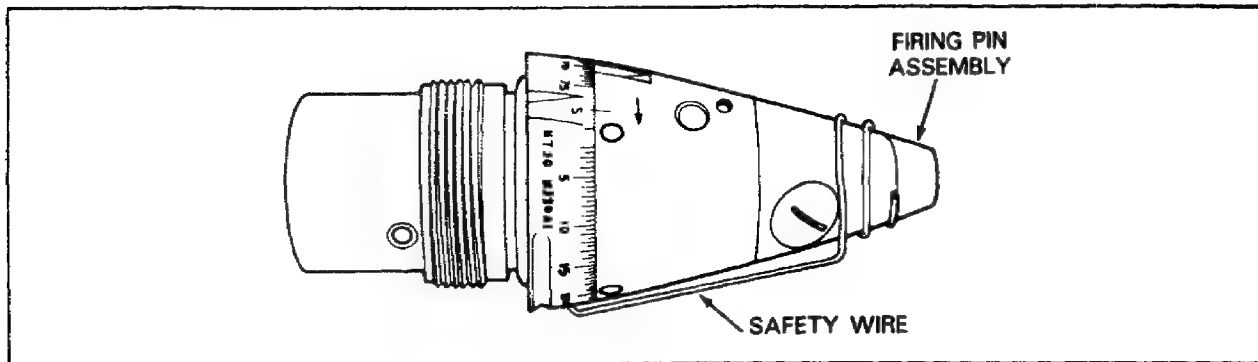
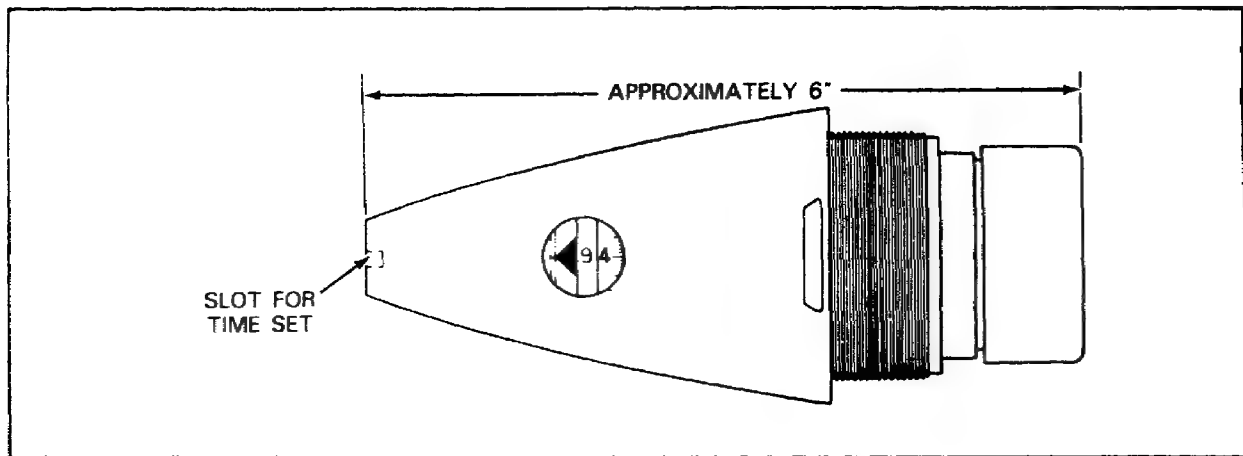

Figure 68. Typical MTSQ Fuze (Older Model).
Figure 69. Typical MTSQ Fuze (Newer Model).
**Mechanical Time, Superquick Fuze.** The mechanical time, superquick (MTSQ) fuze has a clock mechanism similar to that of the mechanical time fuze. It can also be set to function upon impact with a target. Older model mechanical time, superquick fuzes (Figure 68) have a time scale encircling the fuze body. The time scale has an S (for safe) and time settings for up to 100 seconds. Some fuzes have a safety wire inserted through the time mechanism for safety in handling and shipping. Newer model mechanical time, superquick fuzes (Figure 69) do not have the time scale encircling the body. They have a transparent window in the side showing a digital time instead. The time is set by turning a screw in the nose end.